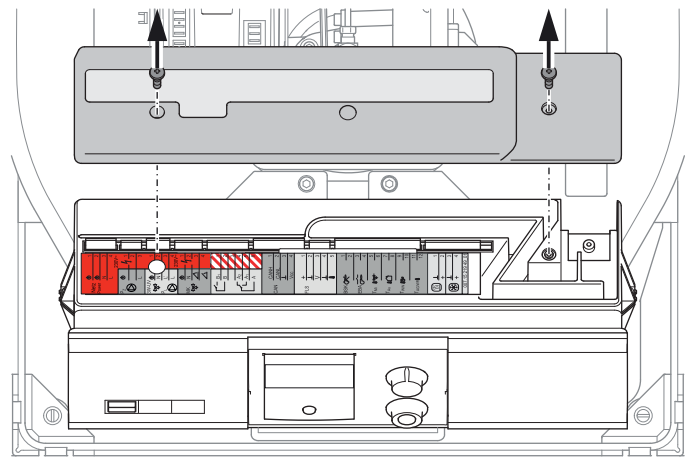

Fig. 6-3 Unscrew control panel cover
4. Unscrew the switching panel cover and remove (fig. 6-3).
2. Unscrew the switching panel cover and remove (see fig. 6-3).